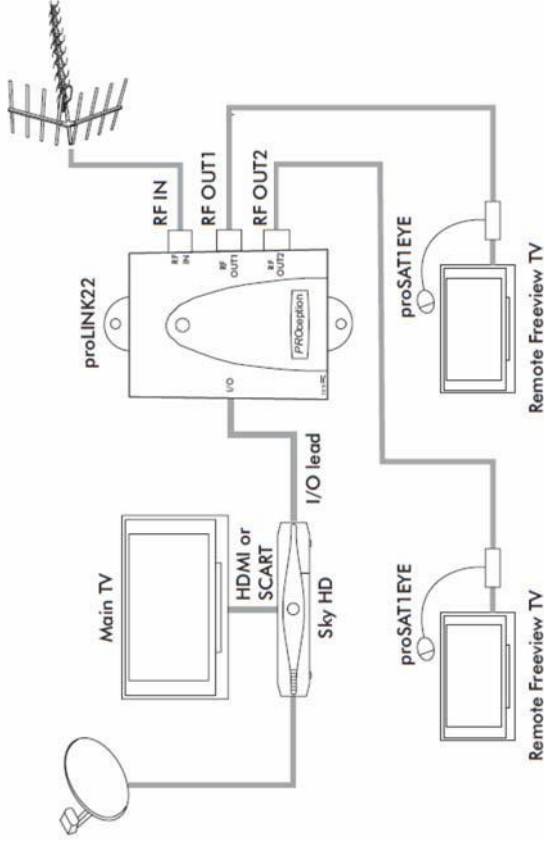

Fig.1—1+2-way system using the proLINK22 in stand-alone mode.
- Fig. 1 shows a basic 1+2-way system with two remote TVs. Either of the RF outputs could alternatively be used to provide an RF feed to the main TV if necessary (making a 1+1-way system).